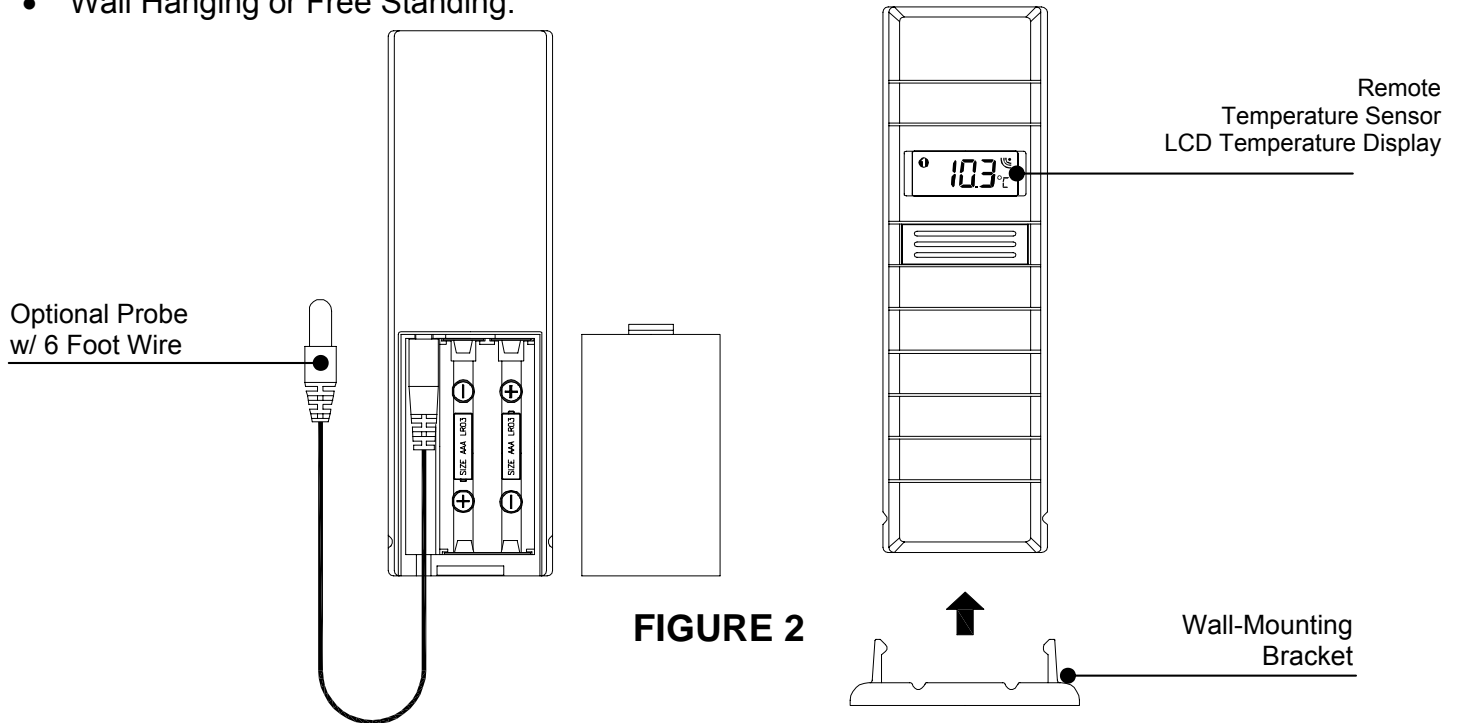

FIGURE 2
- Remote Temperature Sensor with optional Channel 2 Probe (TX25U, Figure 2).